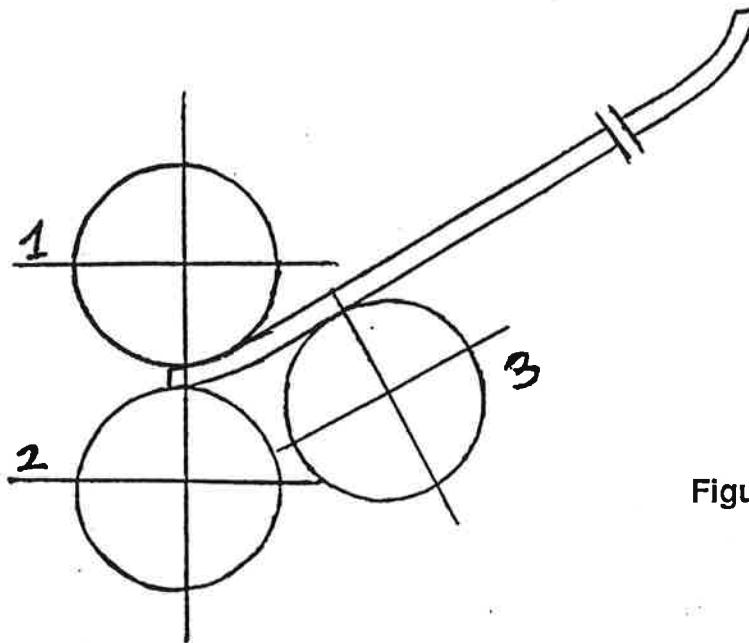

Figure 4
- 2) Rolls numbered 2 and 3 are again moved upwards. (Figure 4)